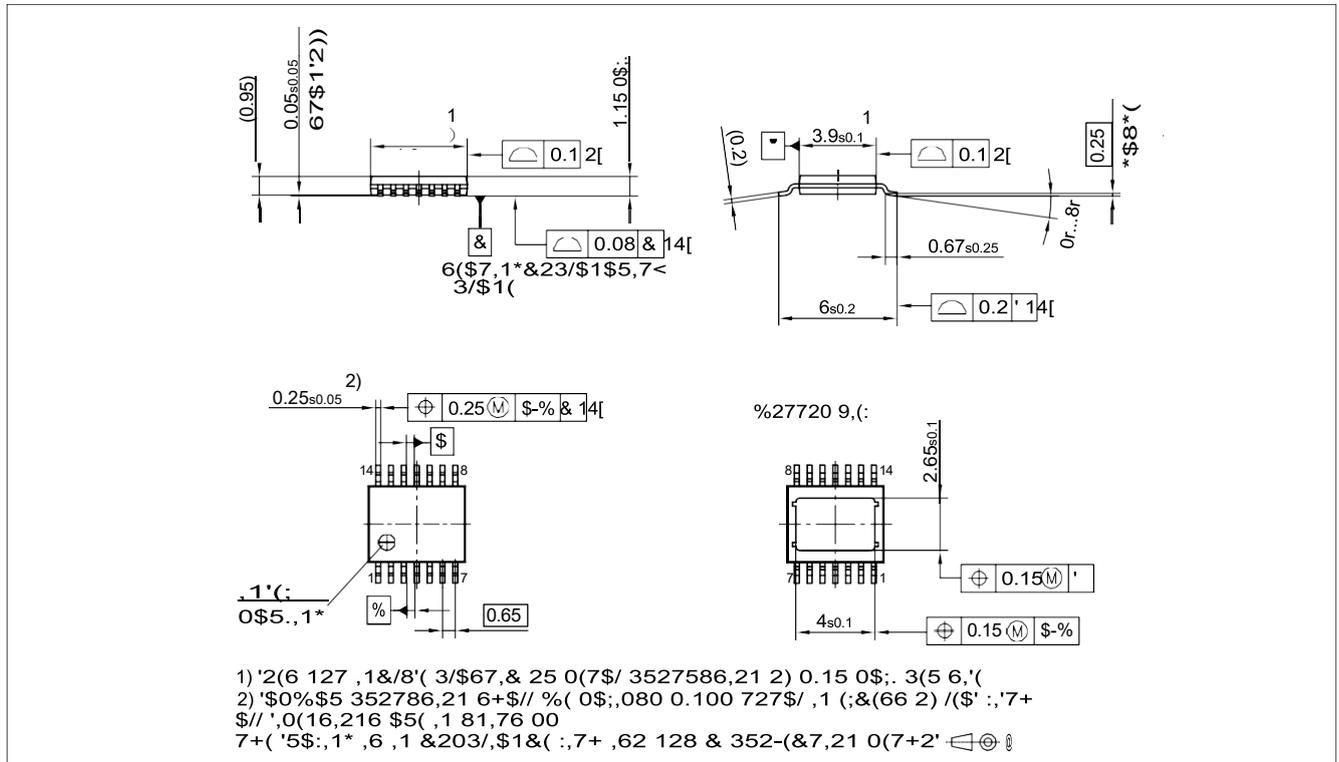
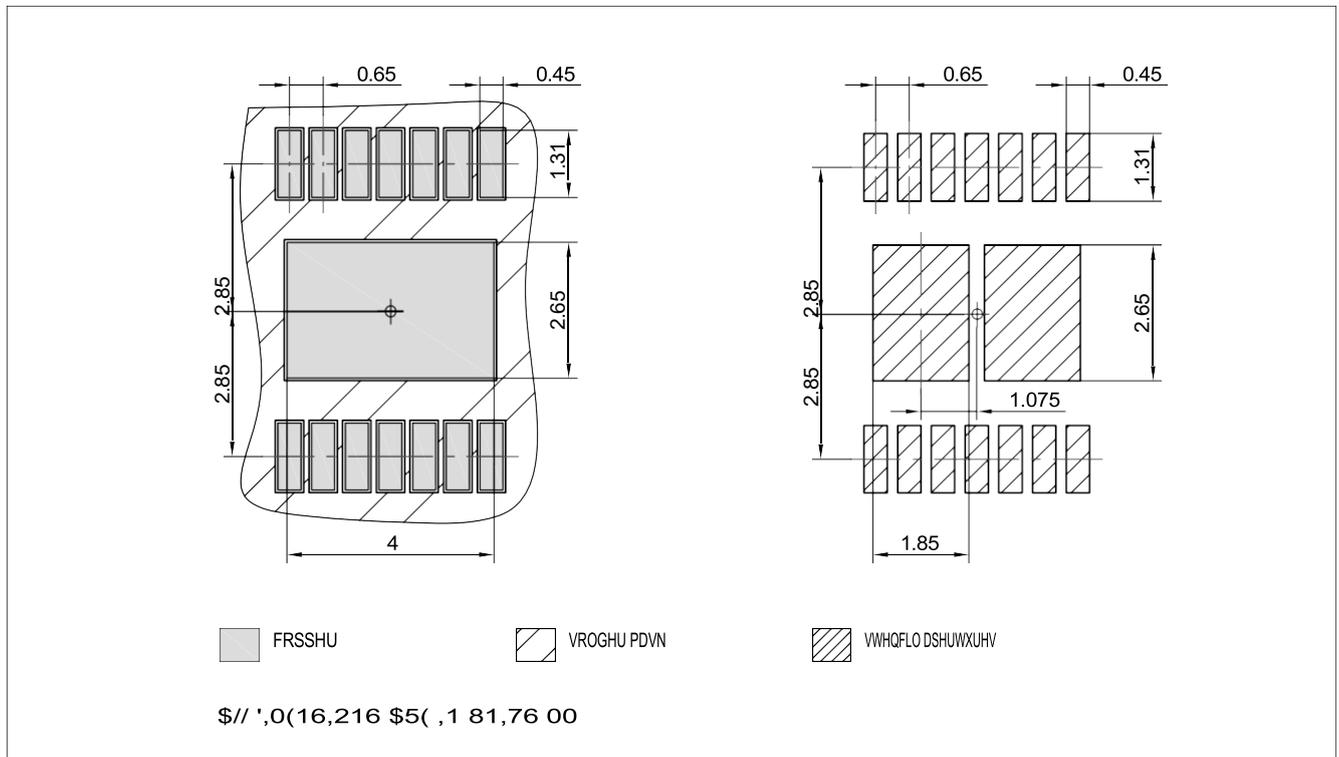

Figure 38 PG-TSDSO-14 (Thin (Slim) Dual Small Outline 14 pins) Package Outline
Figure 39 PG-TSDSO-14 (Thin (Slim) Dual Small Outline 14 pins) Package pads and stencil
1.02, 2019-02-05	<p>Figure 9, Figure 10 updated</p> <p>Page 1: updated (figure product) Table 22 updated (punctuation)</p> <p>Chapter 9.3, Chapter 9.3.1 updated (typo)</p> <p>Page 1: updated (Package PG-TSDSO-14-22 → Package PG-TSDSO-14)</p> <p>Figure 38 updated (PG-TSDSO-14-22 (Thin (Slim) Dual Small Outline 14 pins) Package Outline → PG-TSDSO-14 (Thin (Slim) Dual Small Outline 14 pins) Package Outline)</p> <p>Figure 39 updated (PG-TSDSO-14-22 (Thin (Slim) Dual Small Outline 14 pins) Package pads and stencil → PG-TSDSO-14 (Thin (Slim) Dual Small Outline 14 pins) Package pads and stencil)</p> <p>Table 1 updated (Parameter: Minimum Overvoltage protection ($T_J = 25\text{ °C}$) → Minimum Overvoltage protection ($T_J \geq 25\text{ °C}$))</p> <p>Table 1 updated (corrected typo in table Product Summary: $I_{VS(OFF)}$: 1 → 0.9 μA)</p> <p>Table 1 updated (Symbol: $I_{VS(OFF)}$ → $I_{VS(OFF)_85}$)</p> <p>P_6.5.20.1 updated (Symbol: $I_{VS(OFF)}$ → $I_{VS(OFF)_85}$)</p> <p>P_6.5.20.2 updated (Symbol: $I_{VS(OFF)}$ → $I_{VS(OFF)_150}$)</p> <p>P_9.7.10.27, P_9.7.10.29 updated (Note or Test Condition: formatted physical symbols as subscript)</p>